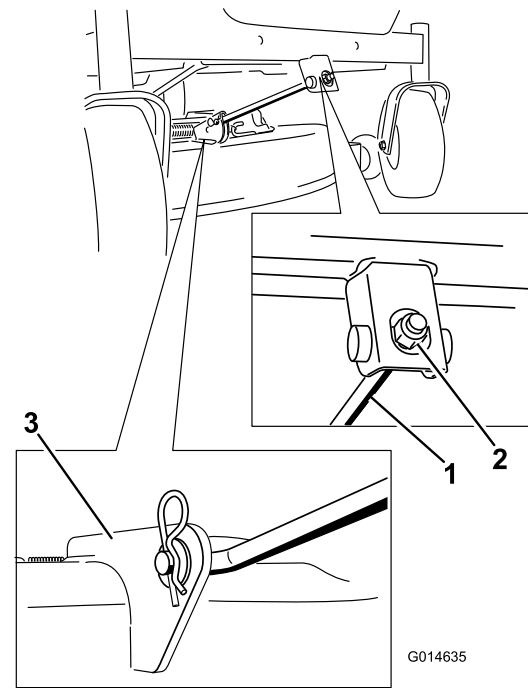

Figure 70
6. For 60-inch decks, remove the 2 deck-lift springs (Figure 70).
4. Remove the hairpin cotter from the front support rod and remove the rod from the deck bracket (Figure 70).
- 7. Attach the front support rod to the mower deck with the clevis pin and hairpin cotter (Figure 70).